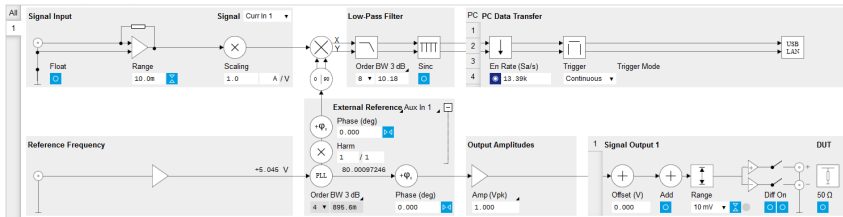

Figure 4.23: Lock-in tab with settings for external reference (without MF-MD option)
**Without MF-MD Multi-demodulator option:** Open the graphical Lock-in tab. In the Internal/External Reference section on the bottom row of that tab, the section label is actually a control which can be toggled between Internal Reference (default) and External Reference. Set it to External Reference. To the right of that control, you can now select the input signal. Select Aux In 1 as the input signal. These settings are also shown in Figure 4.23 on page 63 . The frequency value displayed in the center of the reference section should quickly convert to the 80 Hz of the chopper. The Lock-in settings used to lock to the external reference without MF-MD Multi-demodulator option are shown in the following table.